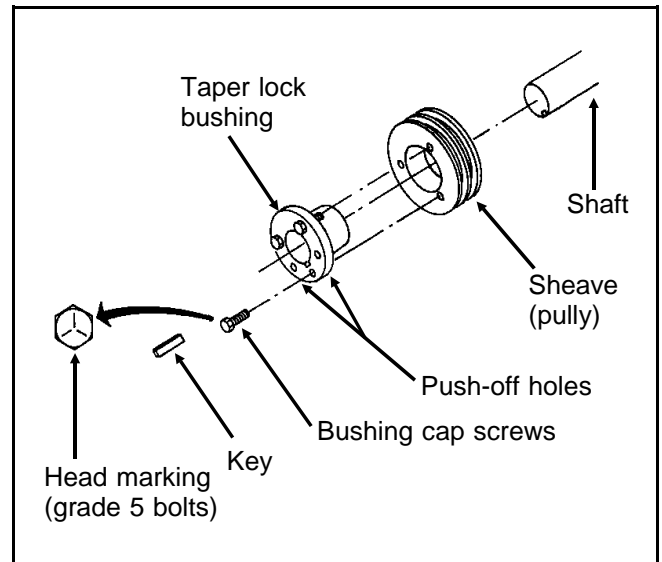

FIGURE 2 (MSSMA407BE)
1. See FIGURE 2.
4. Put two cap screws into the push-off holes in the bushing flange and tighten alternately until the sheave has loosened from the bushing (see FIGURE 2).
4. Carefully tighten the cap screws alternately and progressively until the taper is seated (approximately the “Initial Torque” as shown in the “Taperlock Bushing Bolt Torque Specs” elsewhere herein). Rotate the sheave to detect any wobble or runout (see FIGURE 2 next page).